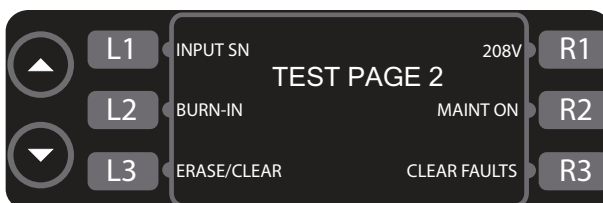

Figure 19: Test Mode Screen 2
1. Press L1 (Figure 19, page 17) on screen 2 of the TEST MODE to access the input new serial number screen.
To initiate a burn-in test, Press L2 (Figure 19, page 17) on screen 2 of the TEST MODE.
To erase all oven settings and return the oven to the manufacturer defaults, press L3 (Figure 19, page 17) on screen 2 of the TEST MODE. The oven will ask you to confirm this action (Figure 27); press R3 to confirm or the back/off key to cancel.
To clear the fault counts (reset all fault counts to 0), press R3 (Figure 19, page 17) on screen 2 of the test mode. The oven will ask you to confirm this action (Figure 28), press R3 to confirm or the back/off key to cancel
The serial number is located at the bottom of screen 2 of the TEST MODE (Figure 19, page 17).